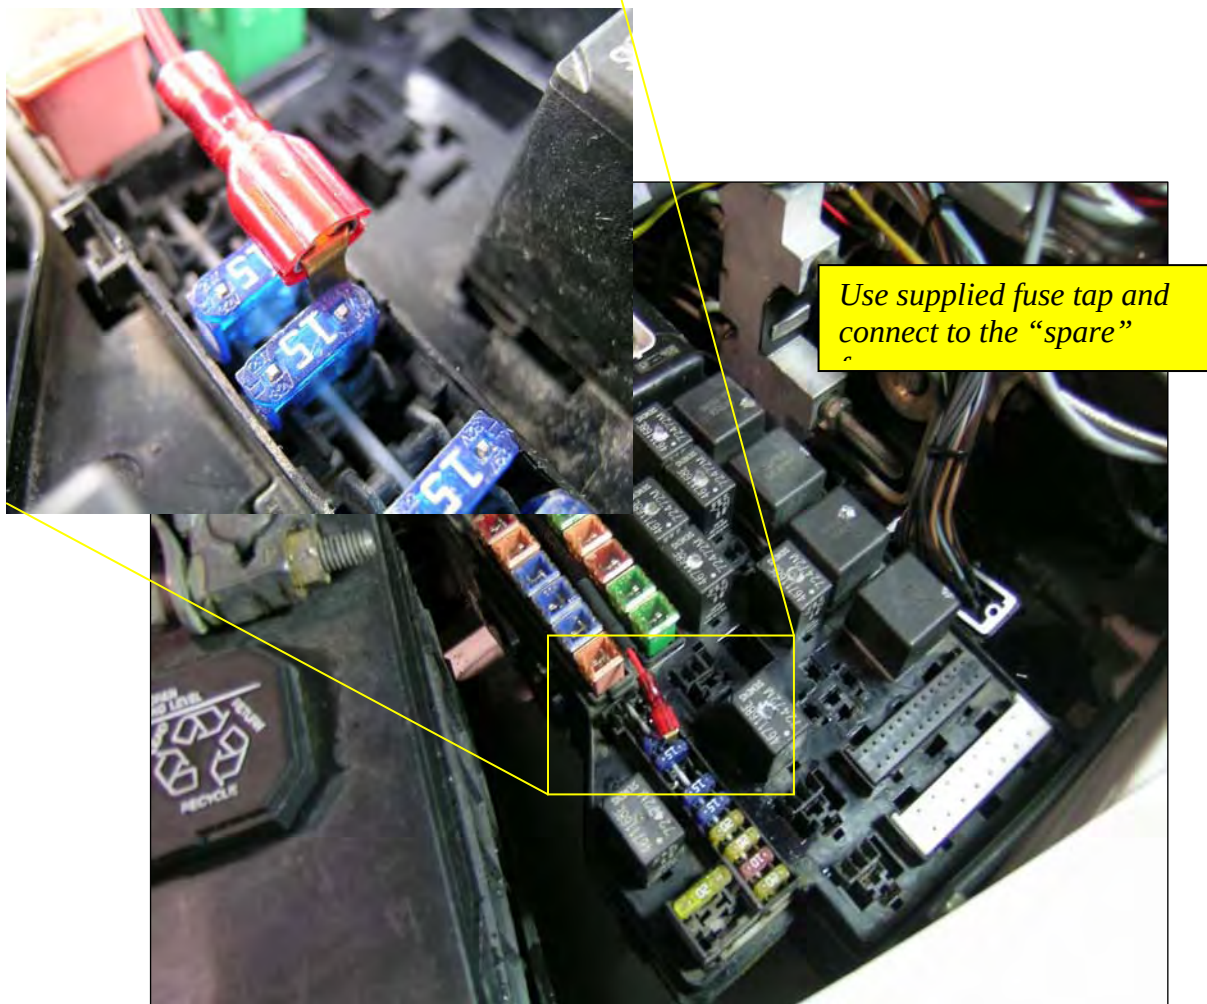

Figure 6 – Power wire attachment to spare fuse location
3. Connect the power cable (See Figure 6) to the “spare” fuse (15 AMP) inside the fuse panel located on the driver’s side of the engine compartment. *Note: Not all trucks have a spare fuse location. If your truck does not have a spare fuse designation – Connect the fuse tap to any 15 Amp fuse such as the “Quad Light”.* Remove the fuse panel cover and the spare fuse and attach the supplied male spade fuse connector onto the terminal. Reinstall the stock fuse with connector back into the fuse panel (this may be a tight fit).